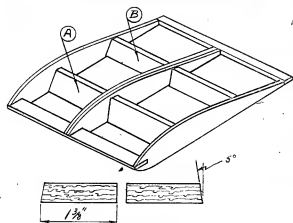

Fig. 24.
As will be more clearly seen from Fig. 24, the centre section consists of four solid balsa ribs joined together by $\frac{1}{4}$ -in. balsa spars (A) and (B). The smaller drawing shows that these spars really consist of four pieces, each spar being cut into halves. Furthermore, the outer ends of the spars are cut at an angle of 5 deg. As a start, we may cut the four pieces of balsa to the shape shown; also, four solid ribs of $\frac{1}{16}$ -in. balsa, which should conform to the outline of the rib shown in Fig. 20. Now, pin pieces (A) and (B) to the building board, upon which a drawing of the centre section has been made. The outer rib is now cemented to the ends of the spars, thus standing at 5 deg. from the vertical. The two inner ribs must be *lightly* cemented together at the nose and tail, and the pair cemented to the inner, vertical ends of (A) and (B). A repetition of the process completes the other half of the section. Cement in the leading edge ($\frac{1}{4}$ in. \times $\frac{1}{16}$ in. and butt-glue the trailing edge (of similar balsa) to the ends of the ribs. Small corner blocks will be seen in Figs. 17 and 24, and the addition of these completes the centre section.